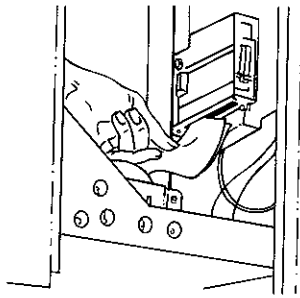

Figure 3.27 Feeding the paper into the slot leading to the printer cartridge.
7. Feed the edges of both the white and yellow papers into the slot behind the printer cartridge (Fig. 3.27). Push up gently on the paper and press PAPER ADVANCE until the mechanism begins to pull the paper. Continue pressing PAPER ADVANCE until about 150